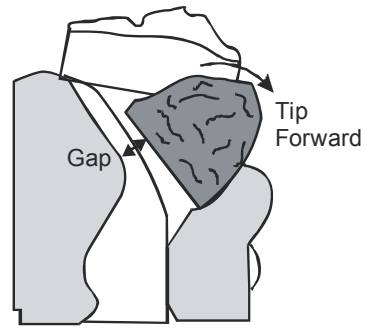

Figure 27
7. Gently tip the middle two rounded coals forward so that the flat faces are distanced away from the rear matrix by about 10mm (see **Figure 27**).